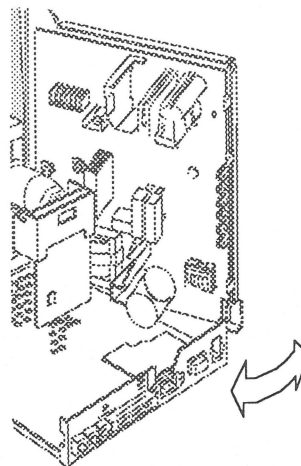

FIGURE 38
8. Pull open (see Figure 38) the right chassis panel.